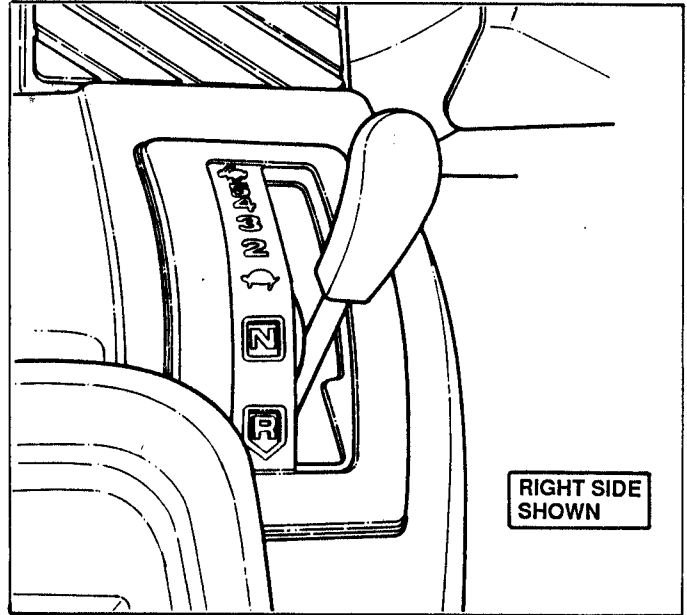

FIGURE 6
1. With **CLUTCH/BRAKE** pedal depressed, shift **SPEED SELECTOR** to 1 for forward or R for reverse and release pedal. (For comfort and safety, always shift back to 1 before starting forward). See Figure 6.